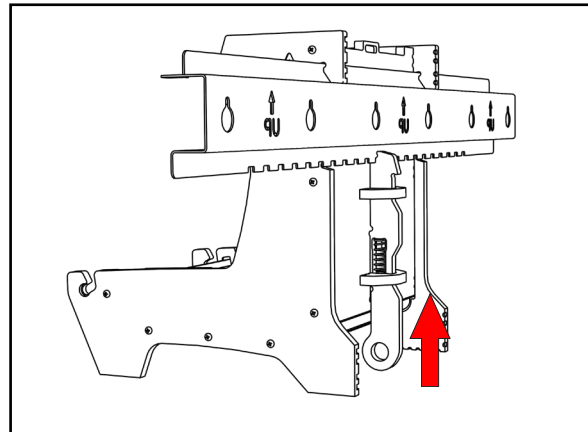

Fig. 5.2: PBX mounted to rail with latch engaged
4. As the unit passes the locking mechanism, release the spring and the box will lock into position. [Figure 5.2]